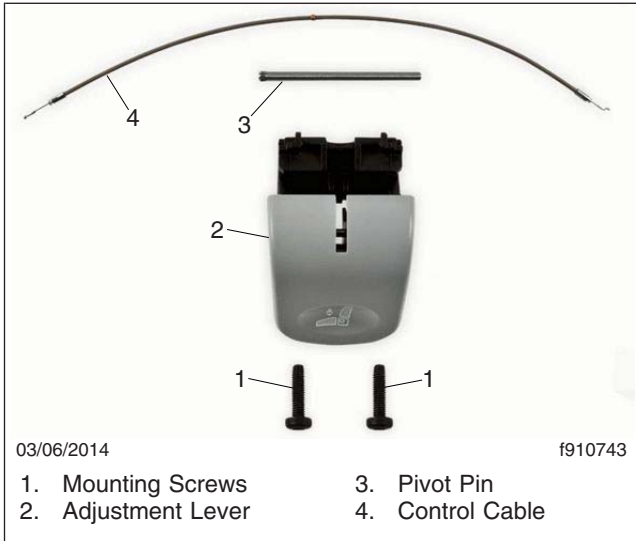

Fig. 11, Shock Absorber Adjustment Lever Components
5. Push the pivot pin out of the lever, and remove the cable; see Fig. 11.
1. Install the pivot pin and the cable on the shock absorber adjustment lever; see Fig. 11.